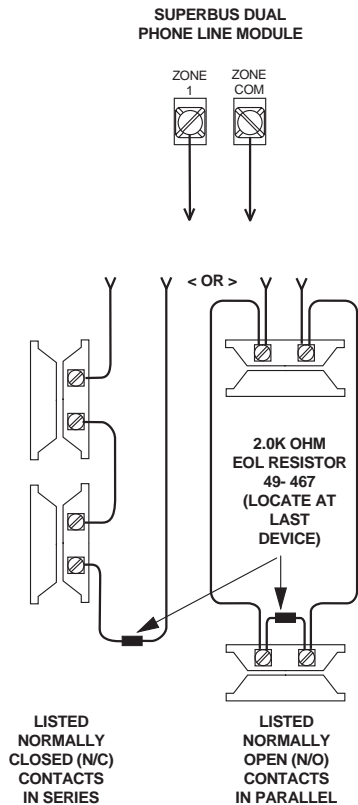

Figure 7. Connecting Module Hardwire Zone
2. Connect the reed switch (with a 2K ohm EOL resistor [49-467]) to the module zone input (Figure 7) or to any unused hardwire input on the panel.